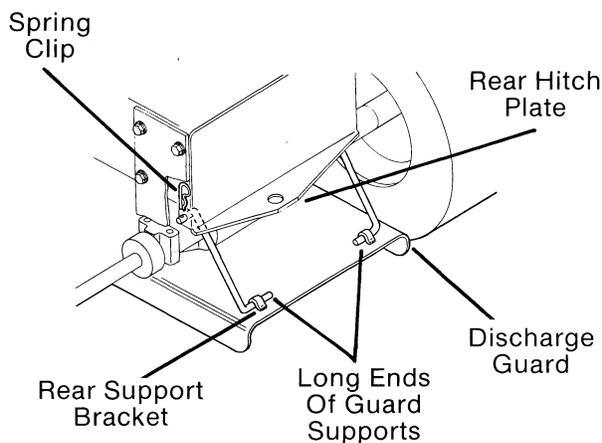

FIG. 10
- Insert the long ends of the guard supports into the rear support brackets. (Fig. 10)
- Lift rear of guard up and hook short ends of guard supports into rear hitch plate as shown in (Fig. 10). Secure supports with spring clips.
- Remove discharge guard from rear of mower deck, by removing spring clips from each guard support. Slide supports out of holes in hitch plate. (Fig. 10)